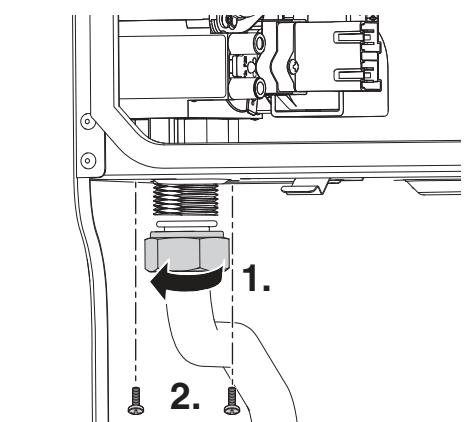

Fig. 76 Gas valve lower connection
1. Refer to figure 76 and undo bottom gas connection to gas valve.